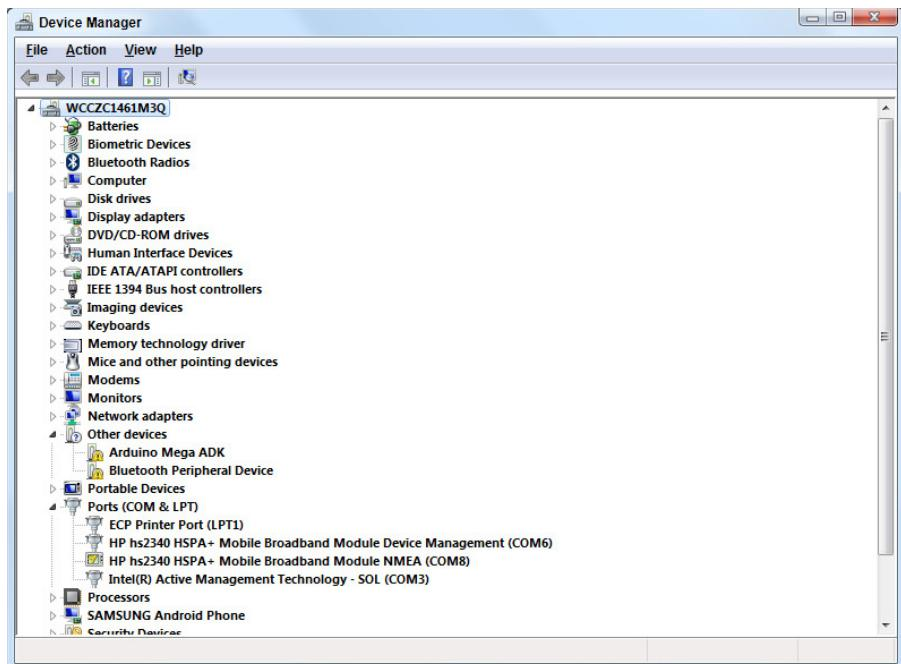

FIGURE 4-13: Install the Arduino Mega ADK driver.
- 1.** Open the Windows Device Manager by executing the `mmc devmgmt.msc` command inside the Windows Start menu. Figure 4-13 shows the uninstalled Arduino as "Other Devices."